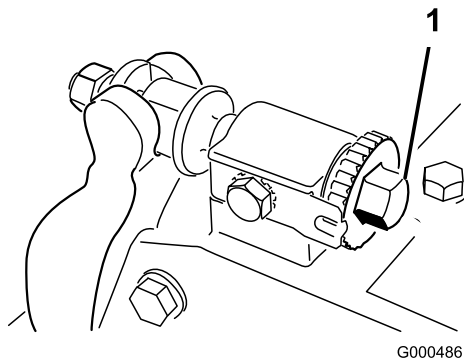

Figure 11
1. Position the cutting unit on a flat, level work surface. Turn the bedbar adjusting screws counterclockwise to ensure that the bedbar does not contact the reel (Figure 11).